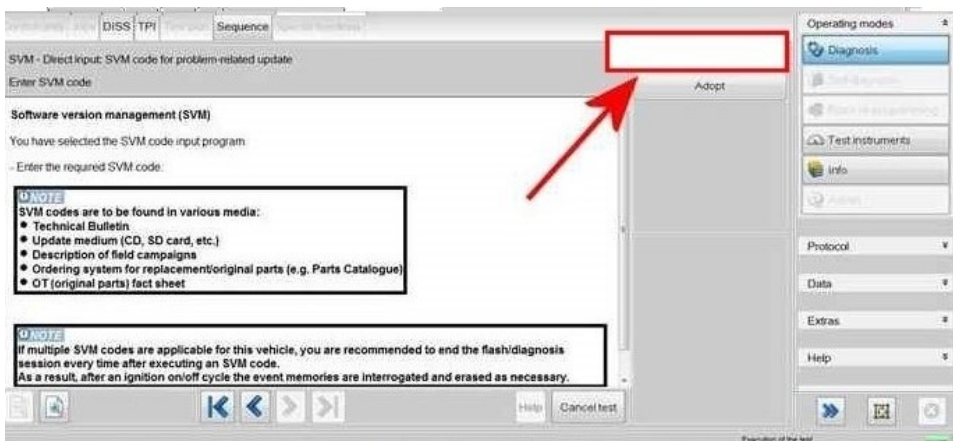

Figure 2
2) Referring to Figure 2 - Enter the SVM code 372WDD01